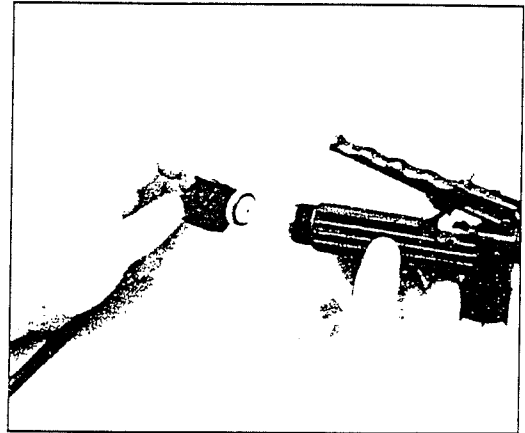

Figure 37
- 10) The o-ring at the connection between the hose and the shut-off valve is replaced by first removing the shut-off valve. The o-ring will then snap off and the new one can be pushed on. (See Figure 37).